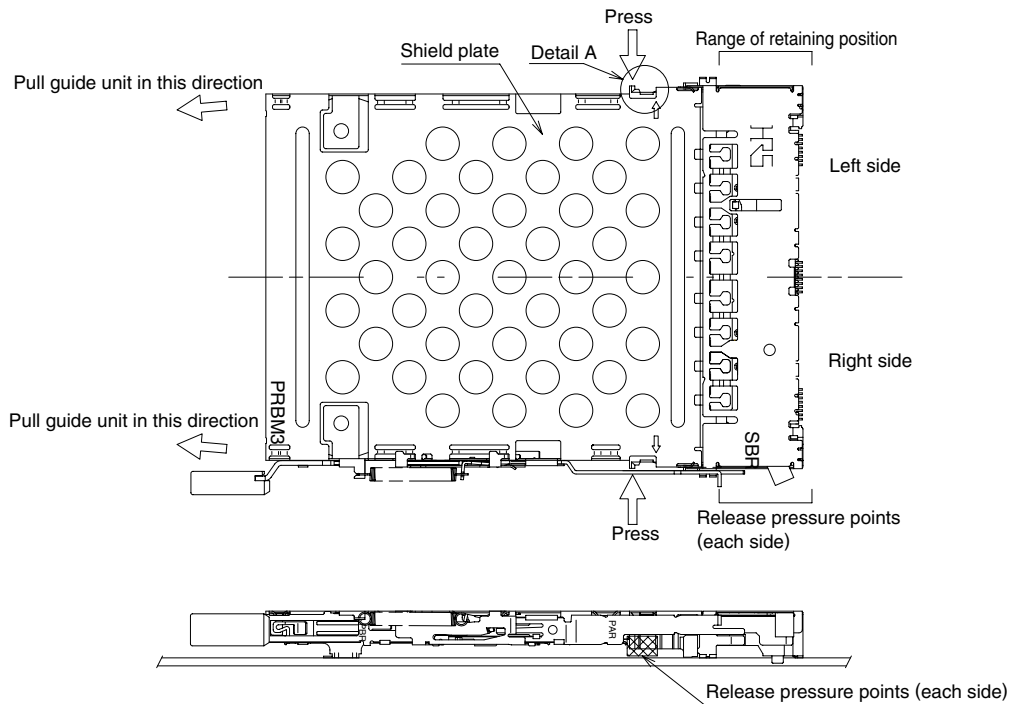

Fig. 2
- (3) As illustrated in Fig. 2, the lock between the shield plate and the ribs of the insulated case can be released. Press the insulator on both side of the installed assembly and carefully slide the Guide unit.